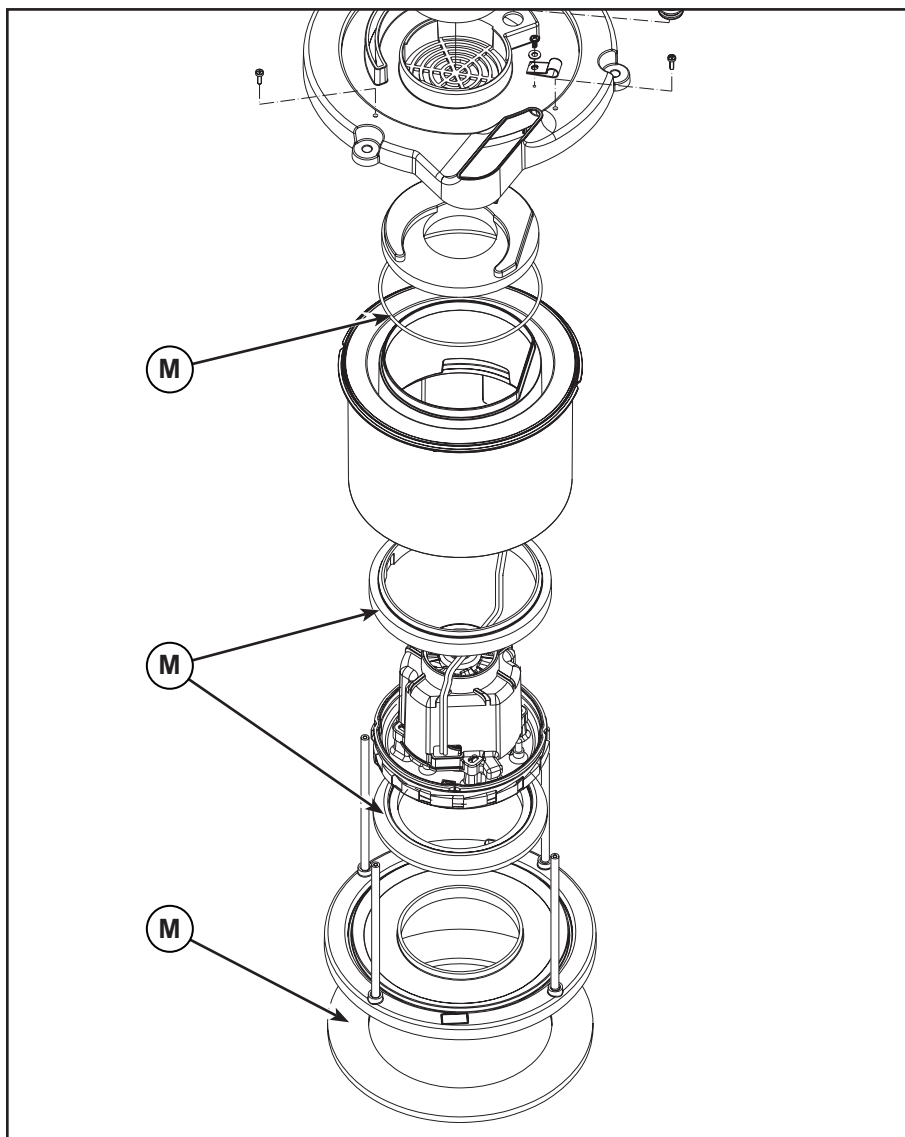

Figure 10:
10. Clean the inside of the containers from any dirt that has settled and check all gaskets (M) (Figure 10) for wear; replace if necessary.